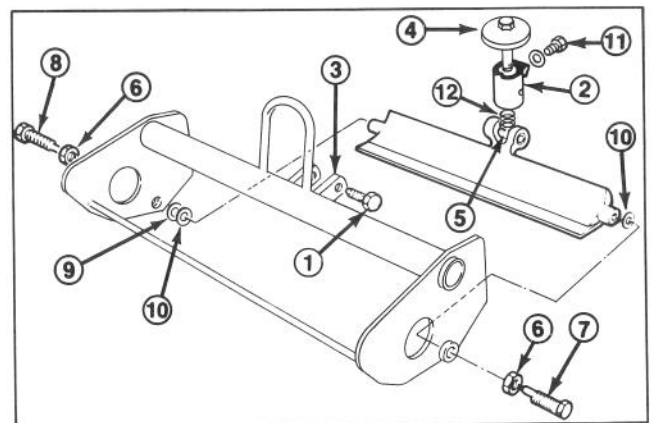

Figure 12
1. Remove spring arm retaining capscrew and washer from pivot assembly. Loosen pivot screws securing bedknife pivot assembly to reel frame supports (Fig. 12).
2. Rotate adjustment knob and pivot assembly clockwise (left hand thread) until it is unthreaded from bedbar pivot (Fig. 12).
3. Loosen jam nuts retaining right and left bedbar pivot bolts. Remove pivot bolts (Fig. 12).
assembly not installed. Tighten jam nut while holding shoulder bolt (Fig. 12).
9. Thread adjustment knob and pivot assembly into flat side of bedbar pivot until mounting holes in pivot assembly are aligned with holes in reel frame supports and bedknife does not interfere with reel (Fig. 12).